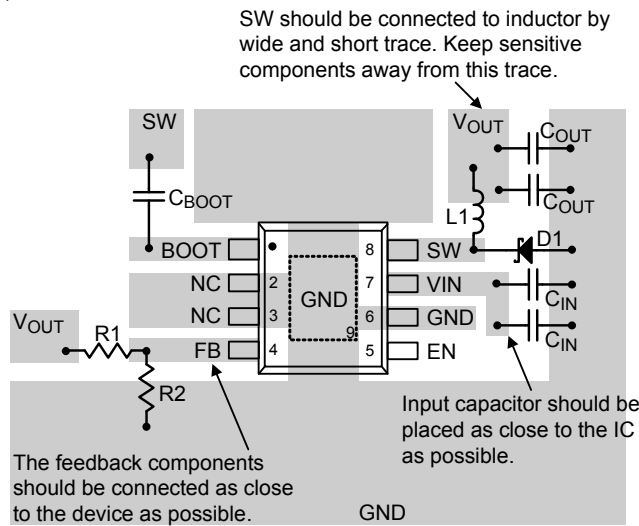

Figure 5. PCB Layout Guide
- ▶ An example of PCB layout guide is shown in Figure 5 for reference.